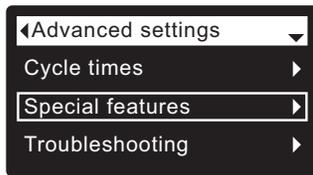

FIG. 87
3. Press the SELECT (O) button to display the Advanced settings menu (See Figure 87).